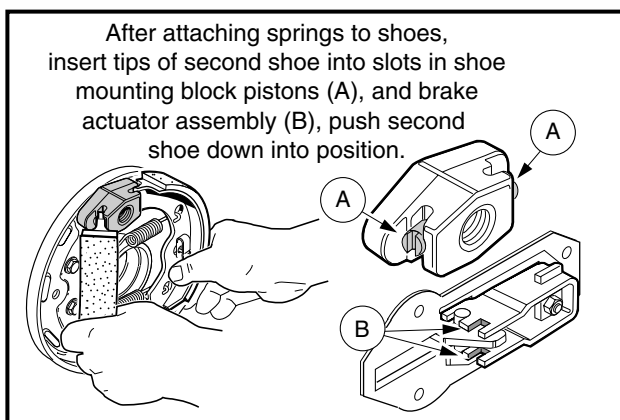

Figure 6-24 Insert Shoes
3. Attach the springs (with hooks pointing outwards) onto the shoe already installed. Then hold the other shoe next to it, correctly oriented, and attach the springs to it. **See Figure 6-24, Page 6-10.**
4. While maintaining spring attachment on both shoes, position the tips of the second shoe into mounting slots and then push shoe into place. Hold shoe in position and install the retaining clip and pin (**Figure 6-24, Page 6-10**).